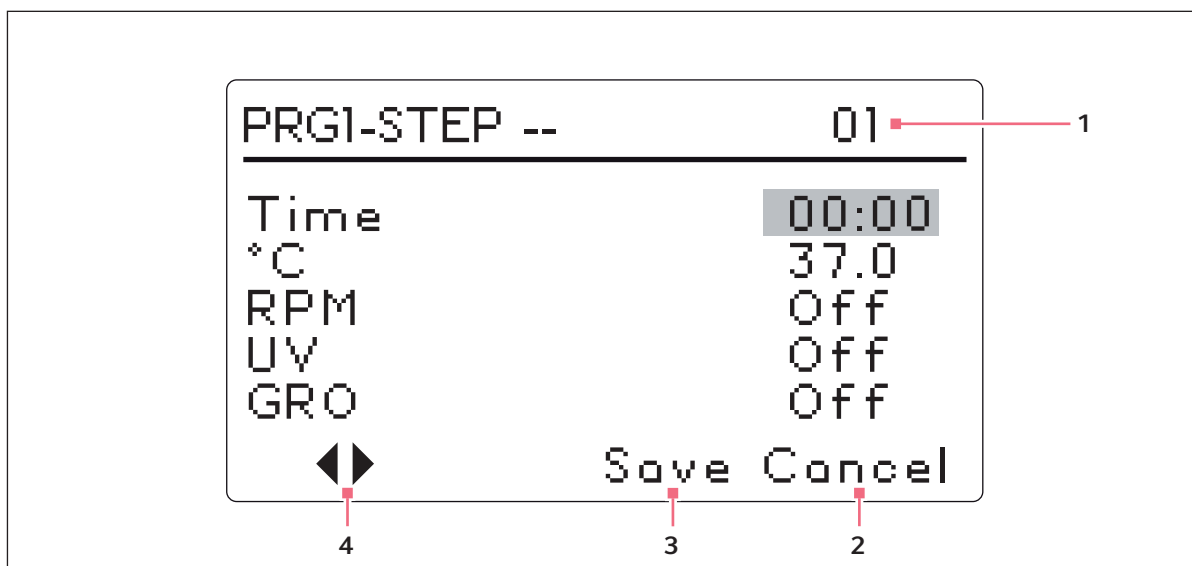

Fig. 5-12: Program 1, Step 1
2. Turn the Control Knob until the field says **New**. Click the Control Knob in to select this mode. The screen for Program 1 - Step 1 will open (see Fig. 5-12 on p. 58):